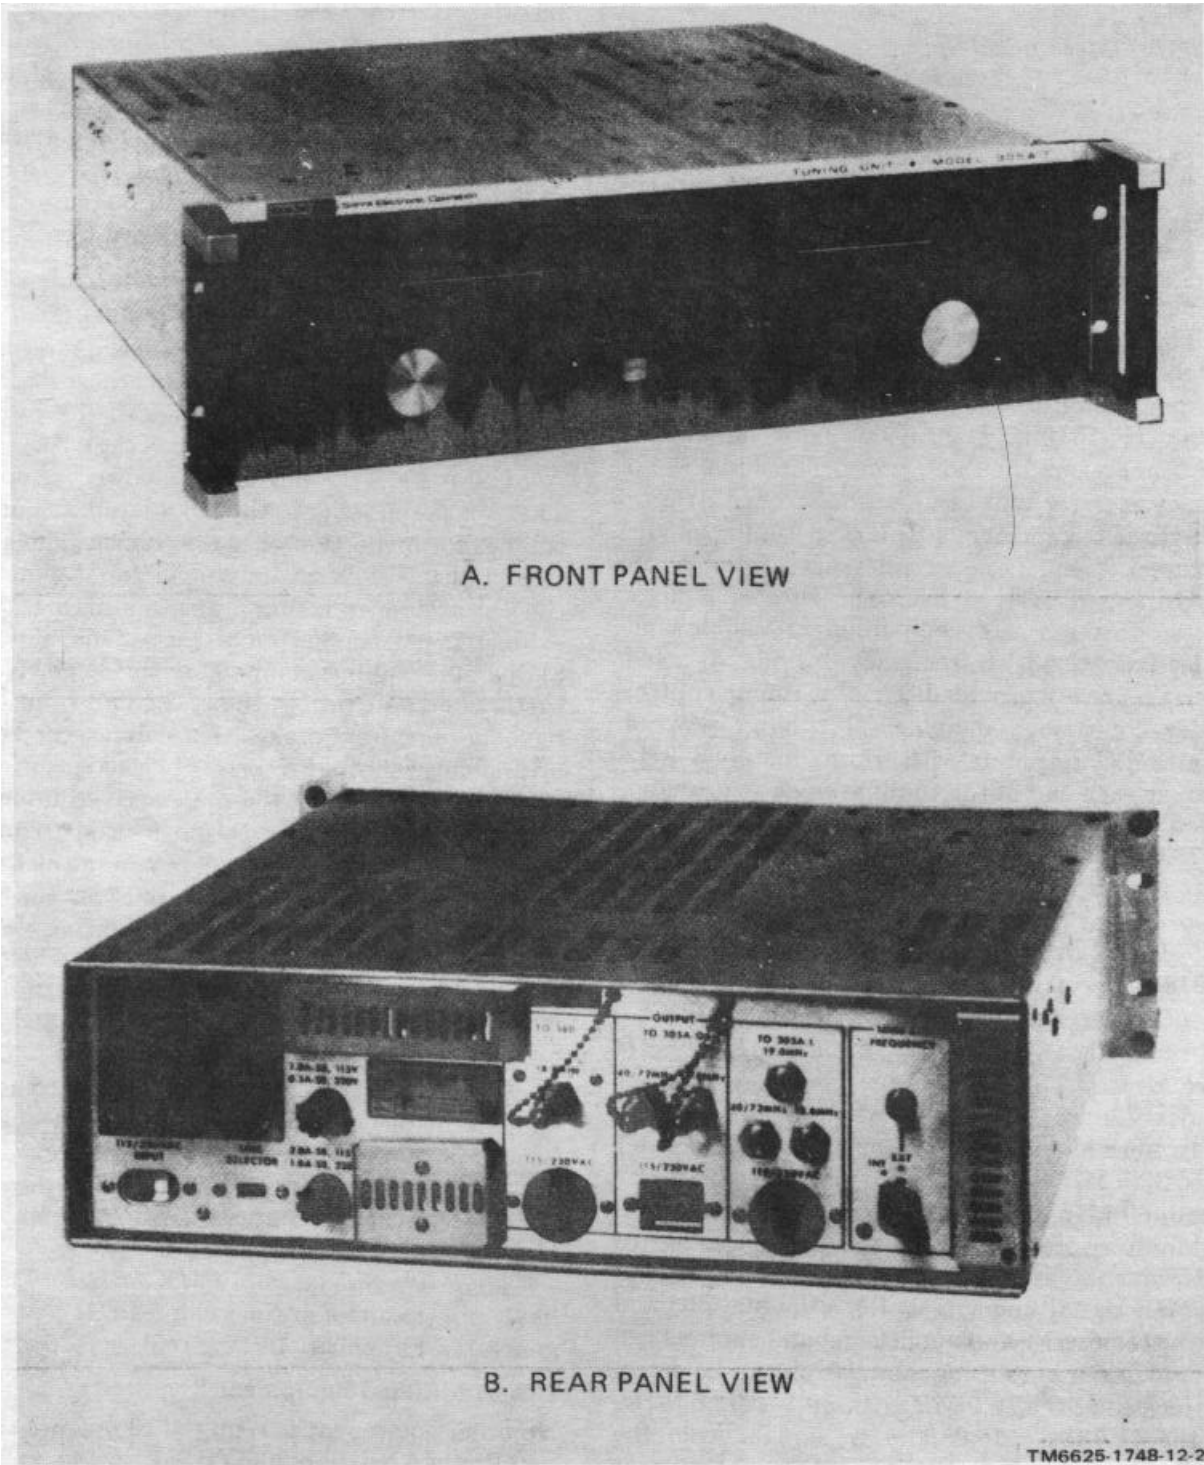

Figure 1-2. TN-527/U radio frequency tuning unit. (Contract No. DAAB05-69-C0767.
a. Tuning Unit, Radio Frequency TN-527/U (fig. 1-2). The radio frequency tuning unit is an ac operated device required to operate the Audio-Radio Frequency Monitor TS-2968/U and Specifictrum Analyzer IP-1018/U. It provides both signal and power connections for these units. The audio-radio frequency monitor unit can be tuned from 1 kHz to 33.5 MHz in a continuous or locked tuning mode. The tuned frequency is referenced against a 100-kHz signal derived from the 1.0-MHz clock oscillator through a decade divider. Visible and audible indications of frequency locking at each 100-kHz point are provided. The fine tuning control provides continuous incremental tuning between the 100-kHz lock points with approximately 8-kHz overlap at each end of the tuning range. It provides a fixed frequency, 19.0 MHz, coarse tuning, 40.1-73.6 MHz, and fine tuning 18.785-18.885 MHz signals to the monitor. These signals are used as local oscillator frequencies by the monitor. The 18.785-18.885 MHz signals are also furnished to the IP-1018/U spectrum analyzer to provide a visual frequency-reference MARKER.
a. Radio Frequency Tuning Unit (fig. 1-2).
(1) Front panel (fig. 1-2).